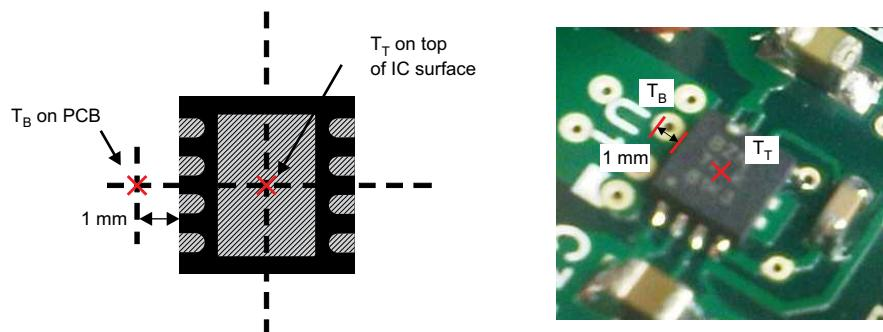

Figure 46. Measuring Points for T_T and T_B
- T_B is the PCB temperature measured 1-mm away from the IC package *on the PCB surface* as shown in Figure 46
- (6)